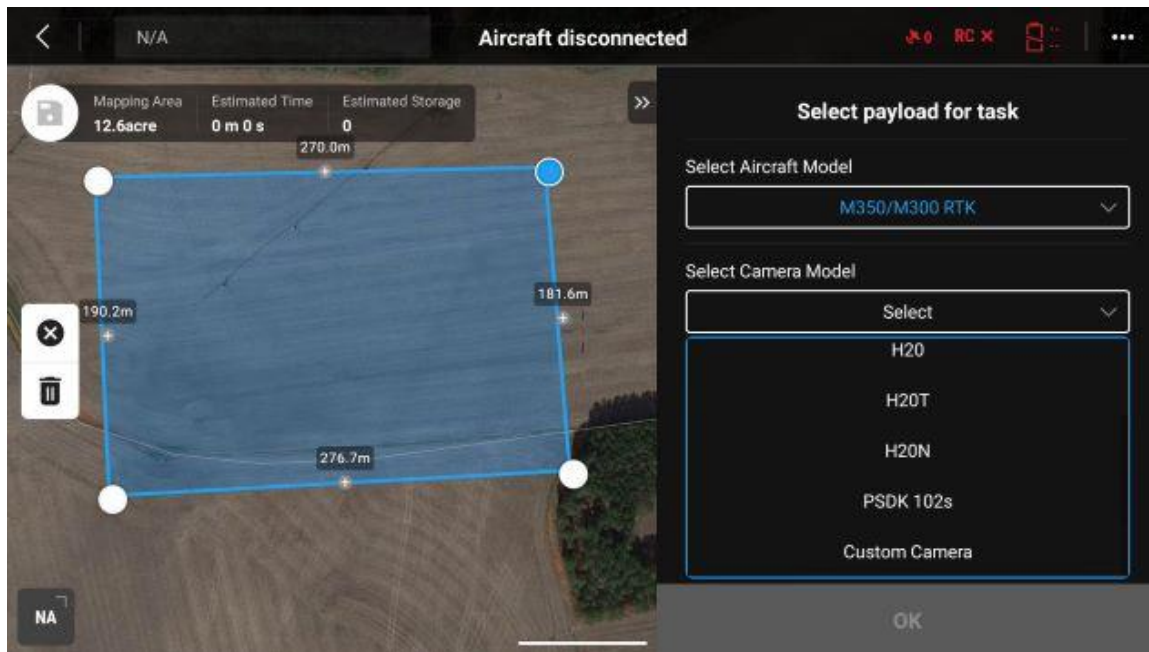

Figure 32: Pilot 2 payload task
3. Input your polygon in which your mission will be flown, then choose the M350/M300 RTK option as the Aircraft Model. (Figure 32)